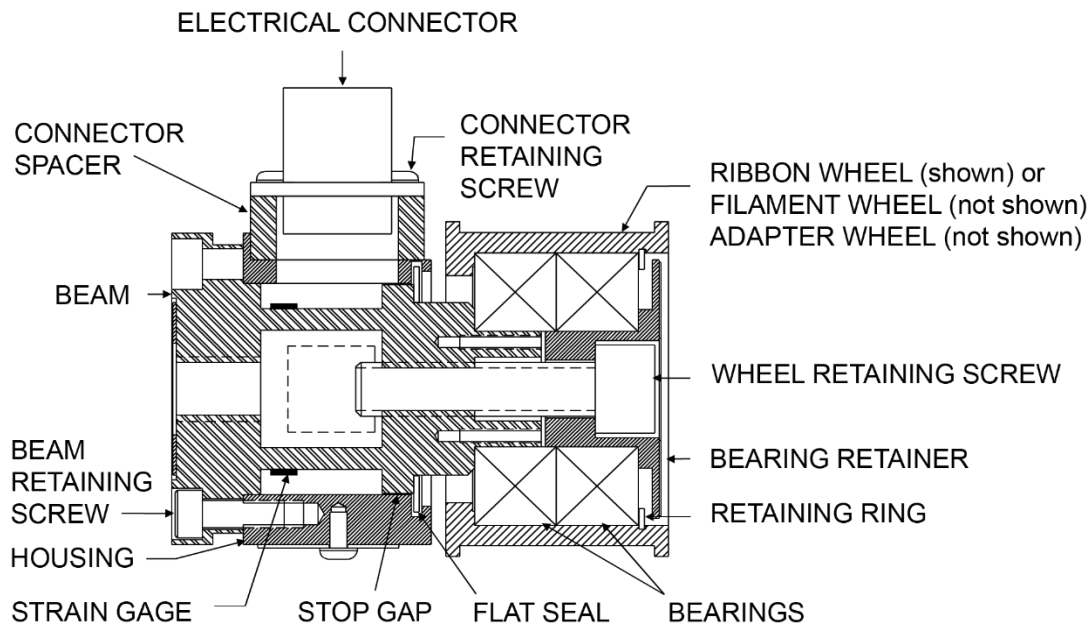

Figure 1 - CUT-AWAY VIEW OF RFA TRANSDUCER
1.1 CONSTRUCTION AND MECHANICAL OPERATION (SEE FIGURE 1)